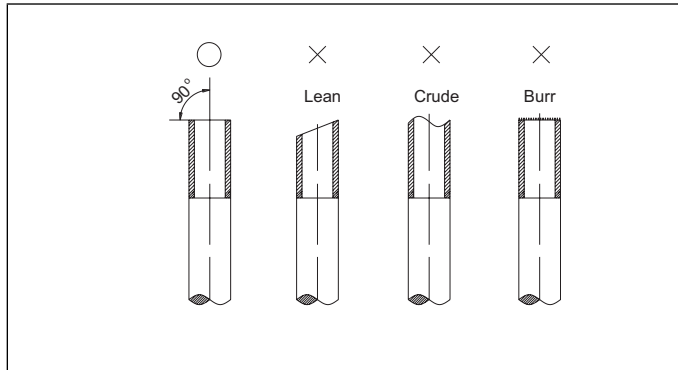

Figure 35. Cutting Pipe
4. Cut the selected pipes with a pipe cutter. Make the cuts flat and smooth as illustrated in “Figure 35. Cutting Pipe”